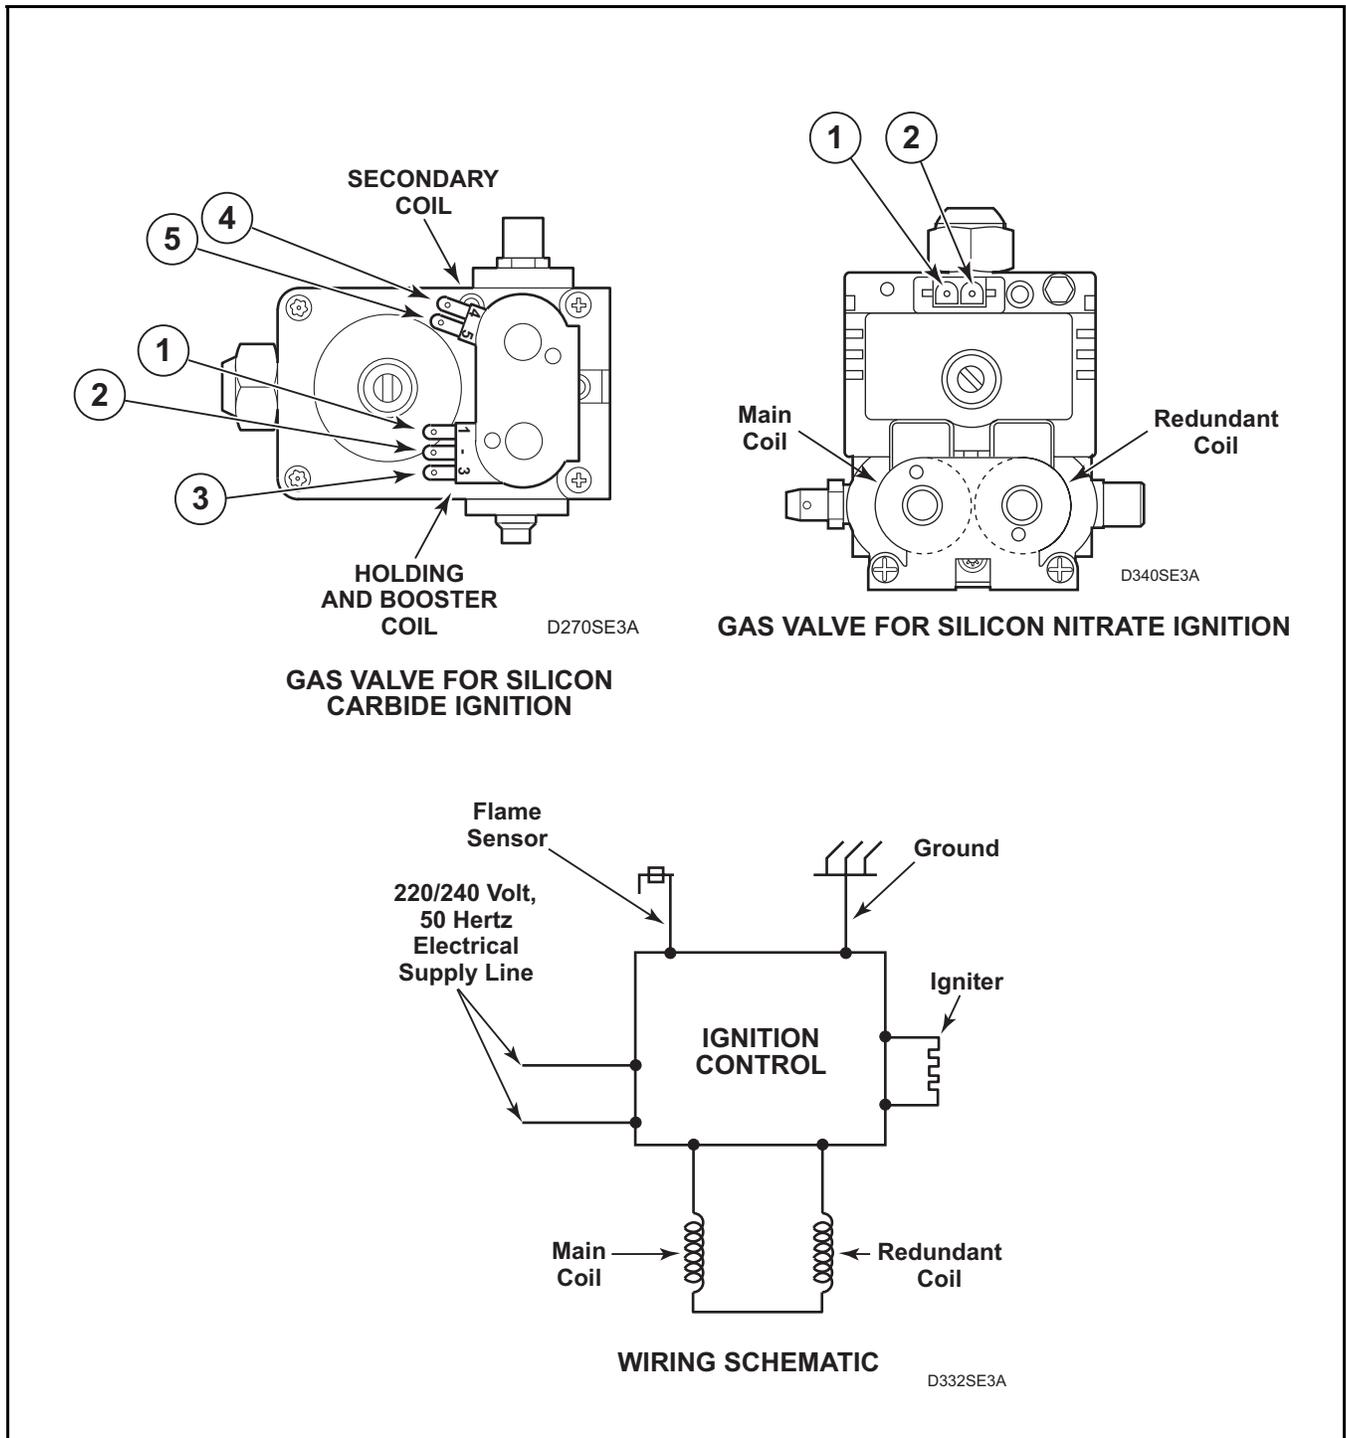

Figure 31
- d. Remove valve wire harness disconnect block from the holding and booster coil. Refer to *Figure 31*.
- e. Set test meter to read Ohms and put meter probes to terminals shown in *Figure 31*, and in the following chart.